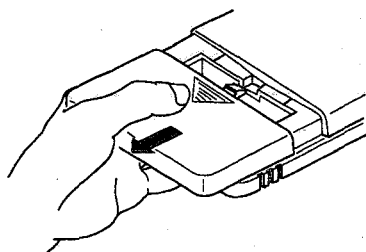

Fig. 7
1. Remove the rear cover of the remote control unit by pressing down on it with your thumb and simultaneously pulling it backwards, as shown in Fig. 7.